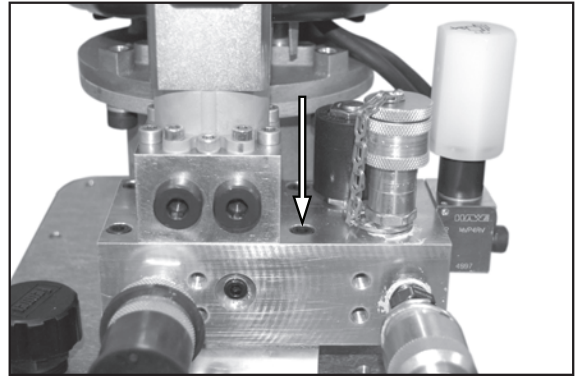

Figure 60.
4. See Figure 60. Remove the four manifold assembly bolts and remove the manifold assembly.